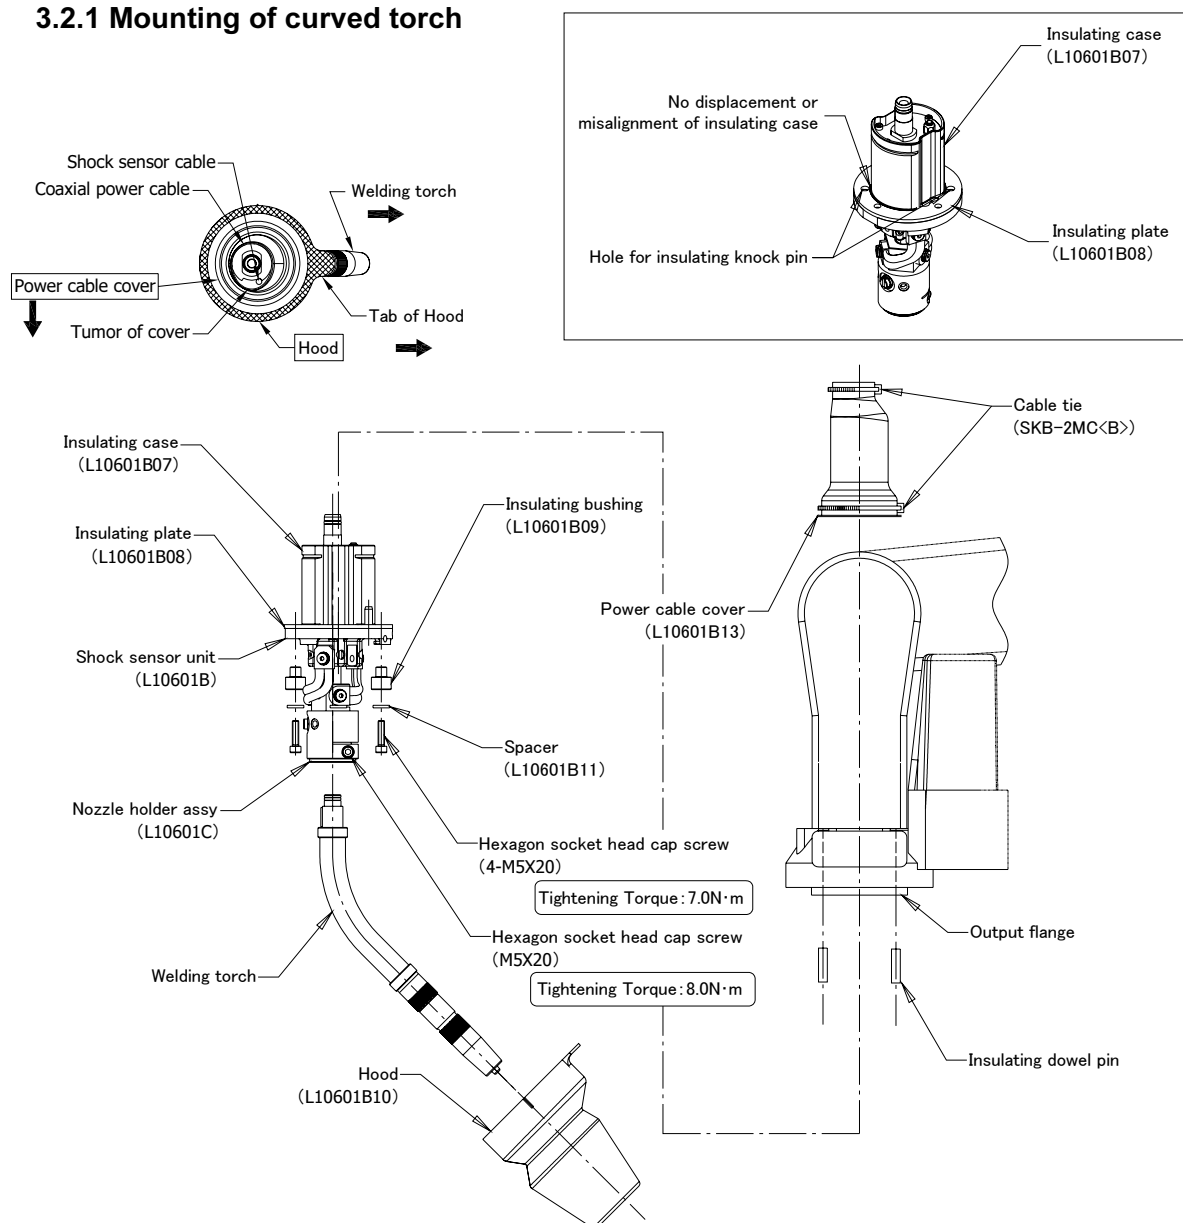

Fig. 3.8 Mounting of torch and shock sensor
- (1) Drive the two insulating dowel pins onto the output flange of manipulator from underneath. (The pins are attached to the shock sensor unit (L10601B).)
- (2) Make sure that the insulating case (L10601B07) and the insulating plate (L10601B08) are fixed properly.
- (3) Insert the shock sensor unit into the output flange of manipulator from underneath. Position correctly the holes for insulating dowel pin of shock sensor to the insulating dowel pins.
- (4) Mount the insulating bushing (L10601B09) and the spacer (L10601B11) onto the shock sensor unit from underneath, using 4 pieces of hexagon socket head cap screws (M5×20). (The screws are attached to the shock sensor unit.)
- (5) Unfasten the hexagon socket head bolt (M5×20) that fixes the shock sensor, and then insert and fix the welding torch.
- (6) Attach the power cable cover (L10601B13) from above, and the hood (L10601B10) from underneath. (Refer to the top view in fig.3.8 for the installation direction.)